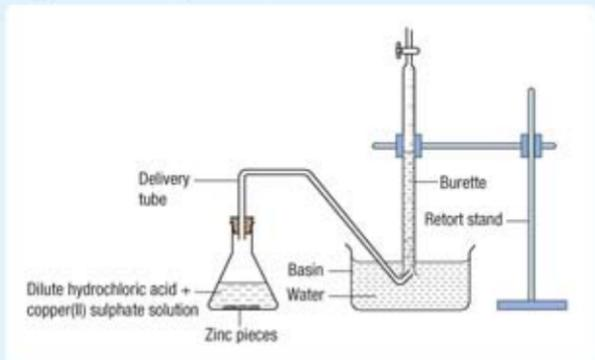

Figure 4.19
7. Repeat steps 1 to 6 by replacing the 40 cm^3 of 0.1 mol dm^{-3} dilute hydrochloric acid with a mixture of 40 cm^3 of 0.1 mol dm^{-3} dilute hydrochloric acid and 5 cm^3 of 0.5 mol dm^{-3} copper(II) sulphate solution (Figure 4.19).